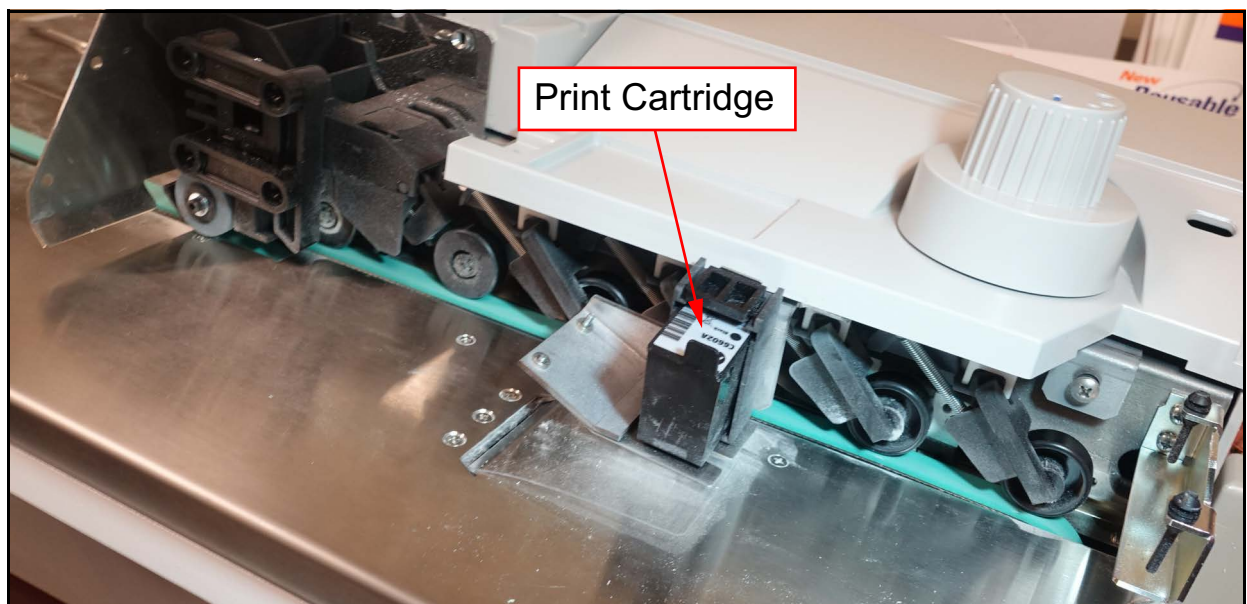

Figure 4-4: Printer Cartridge
3. Remove the Nip Arm Cover (as shown on page 50) to expose the printer cartridge (Figure 4-4).